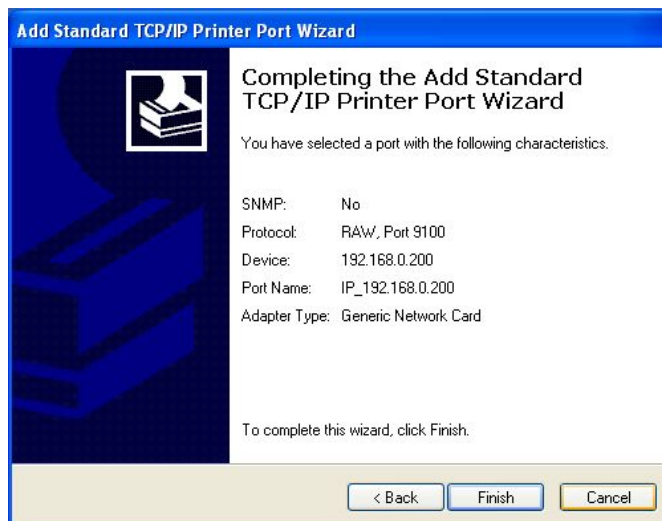

Figure 5.3.7
7) Refer to Figure 5.3.7, click “Finish” button to finish the adding of port;